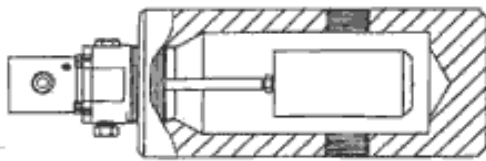
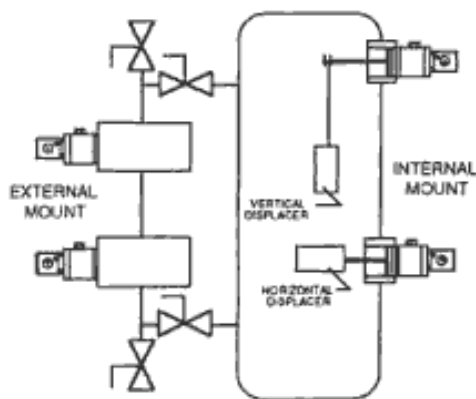

FIGURE 1
FIGURE 2
The K-Dyne, Inc. pneumatic version of the Model L80 is a 2" NPT mounted liquid level switch. It is typically mounted in a K-Dyne Model C80 cage shown in the Figure 1 for external bridle mounting or may be internally mounted in a 2" NPT (F) connection. Both mounting configurations are shown in Figure 2.
It is suggested that the Model L80 be installed in an external cage for maintenance and testing purposes. A recommended piping system for mounting an external cage to a vessel is shown in figure 2. The valves above and below the cage are required for testing and maintenance purposes.